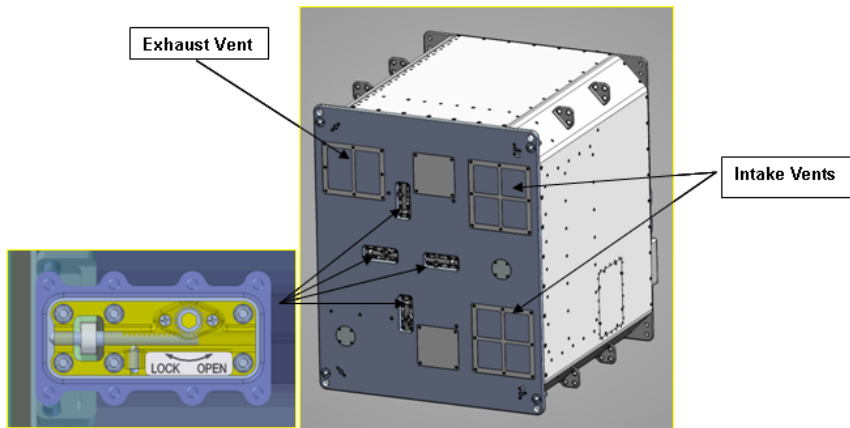

Figure 3. Cryocooler Launch Locks and Vents on Rear of Glacier.
4. Push in and rotate counterclockwise cryocooler launch locks (four) at rear of Ascent Glacier until locking pin is disengaged (OPEN) (3/16" Hex Head, 1/4" Drive; Driver Handle, 1/4" Drive). Refer to Figure 3.